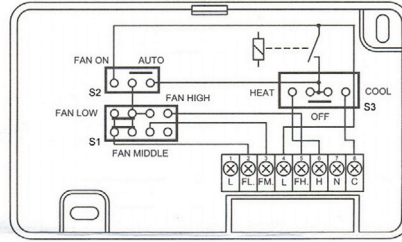

Figure 1
4. Install the wires into the terminal block. To secure wires, tighten the screws on top of terminal block. Before you install the wires, you must check your system wiring diagram (see figure 1). If your system is other than this type, check with your local dealer or consult with a professional electrician.
This typical wiring diagram (Figure 1) shows only the terminal identification and wiring hookup. Always refer to wiring instructions, provided by equipment manufacturer, for system hookup operation.